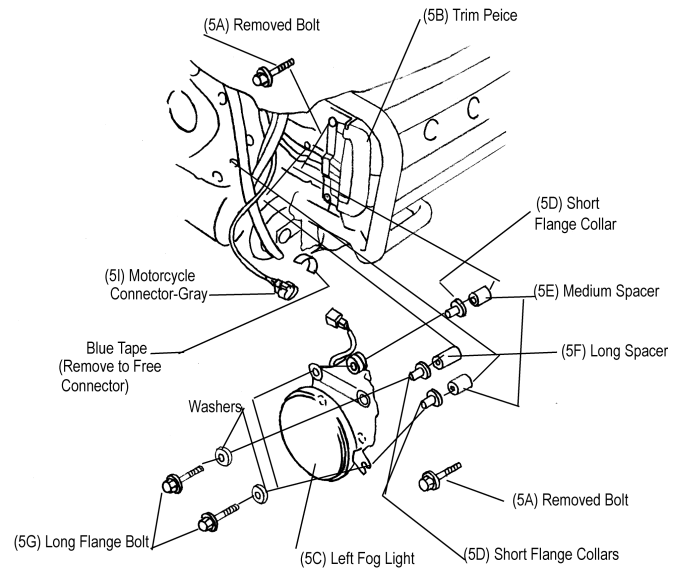

FIG 5
9. USING THE 8MM WRENCH REMOVE THE TWO BOLTS (5A) HOLDING THE PLASTIC TRIM PIECE (5B) ON. INSTALL THE LEFT FOG LAMP (5C) BY USING THE SHORT FLANGE COLLARS (5D), THE TWO MEDIUM SIX SPACERS (5E), THE LONG SPACER (5F), THE LONG FLANGE BOLT (5G), AND WASHERS (5H). PLUG THE 2-PIN CONNECTOR INTO THE MOTORCYCLES 2-PIN GRAY CONNECTOR (5I). REMOVE THE PLUG COVER FIRST. THE MOTORCYCLE CONNECTOR MAY BE TAPED TO THE BIKE. THIS TAPE WILL HAVE TO BE REMOVED TO LENGTHEN WIRES. REFER TO FIGURE 5.